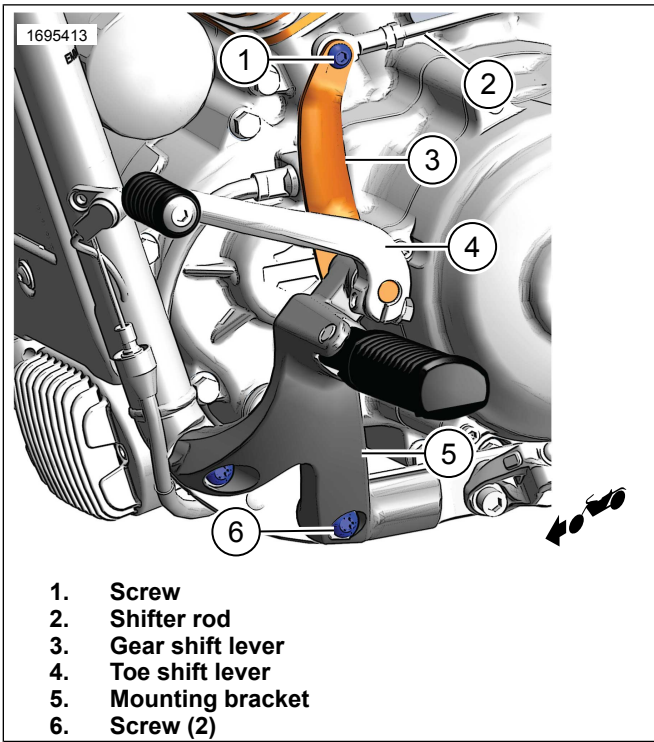
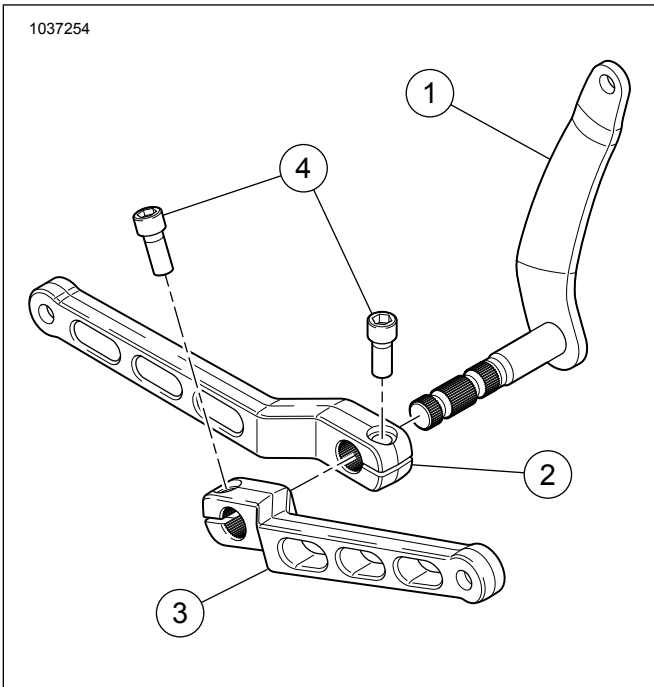
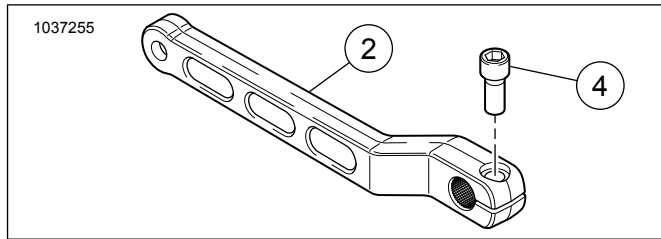
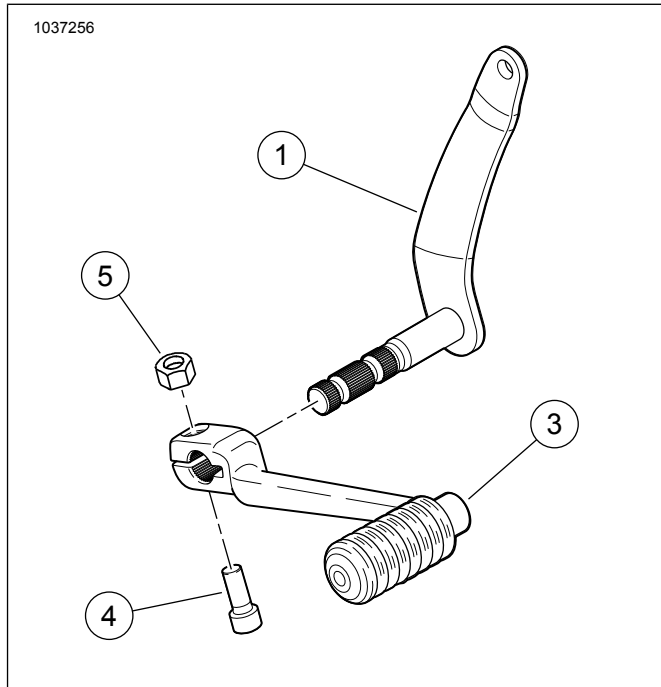

Figure 1. Foot Support
Figure 2. Heel/Toe Shift Kit
Figure 3. Toe Shift Kit
Figure 4. Heel Shift Kit
See Figure 2, Figure 3, Figure 4 and Table 1.
1. See Figure 3. Remove Original Equipment (OE) shift lever. See service manual.
2. Install toe shifter lever (1) onto splined shaft, ensuring angle of lever is same as stock toe shift lever removed earlier.
3. Once toe shift lever is assembled in proper orientation, install a socket head cap screw (4), and tighten to value listed in service manual.
1. See Figure 1. Remove OE toe shift lever (4) from gear shift spline shaft (3).
2. Remove OE gear shift lever (3) from shifter rod (2).
3. Remove OE gear shift lever (3) from mounting bracket (5). Retain O-ring and plastic spacer.
4. Remove two screws (6) from rider footboard bracket on frame. Retain screws.
5. See Figure 2. Install OE O-rings and plastic spacer to **new** gear shift lever (1).
6. See Figure 1. Install **new** gear shift lever (3) to mounting bracket (5).
7. Apply threadlocker to screws (6) removed earlier.
9. Install **new** gear shift lever (3) to shifter rod (2). Tighten screw (6). See service manual.
10. See Figure 2. Install toe shift lever (2) to splined shaft at desired angle.
- a. Torque screw (4). Tighten.
11. See Figure 2. Install heel shift lever (3) to splined shaft at desired angle.